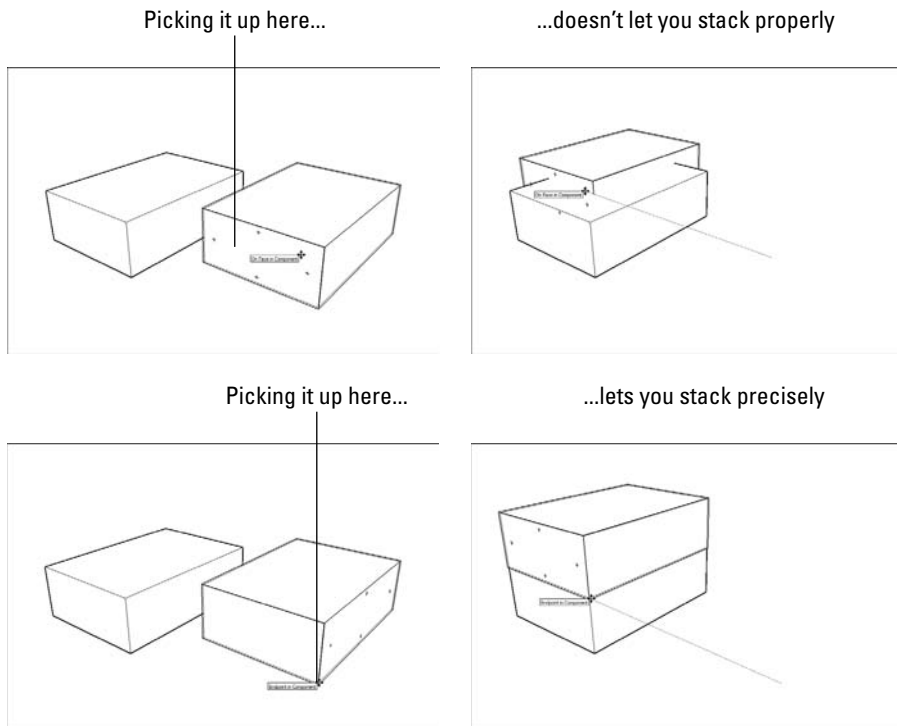

Figure 2-18:
- ✔ **Click a point that will let you position it *exactly* where you want when you drop it (instead of just clicking anywhere on the thing you're trying to move to pick it up).** Figure 2-18 shows two boxes that I want precisely to stack on top of each other. If I just click anywhere on the first box and move it over the other one, I can't place it where I want; SketchUp just doesn't work that way.